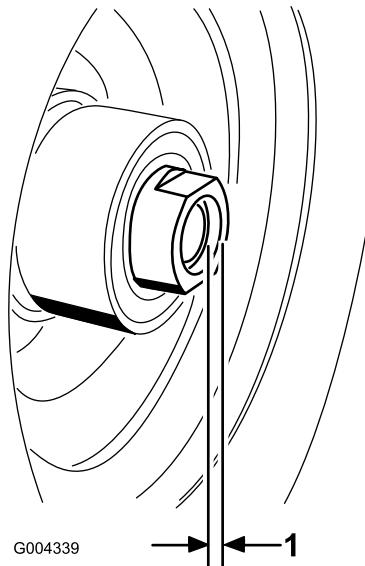

Figure 26
11. If both spacer nuts were removed from the axle, apply thread locking adhesive to the spacer nut. Install the spacer nuts onto the axle leaving an 1/8 inch (3mm) of the nut past the axle (Figure 26).
16. Torque the spacer nut to 75-80 in-lb (8-9 N·m) then loosen it and torque it to 20–25 in-lb (2-3 N·m). Make sure the axle does not extend past either nut (Figure 26).